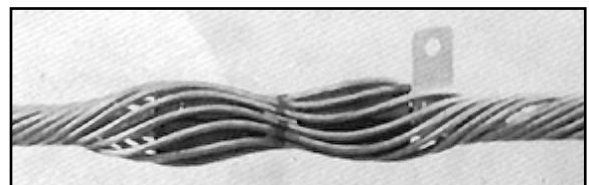

FIGURE 8
- 3.05** Using both hands, encircle the free rod ends at one end of the application. Twist all rod ends into position simultaneously. Repeat process at other end. Check to be sure that the insert has remained perpendicular to the plumb. (Figure 8)